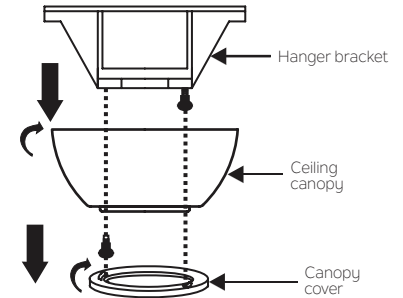

Fig. 5
**Step 1.** Remove the decorative canopy bottom cover from the canopy by turning the cover counter clockwise. (Fig. 5)
**Step 2.** Remove the ceiling mounting bracket from the canopy by removing (and save) one of the two screws. Loosen the remaining screw by a half turn. (Fig. 5)